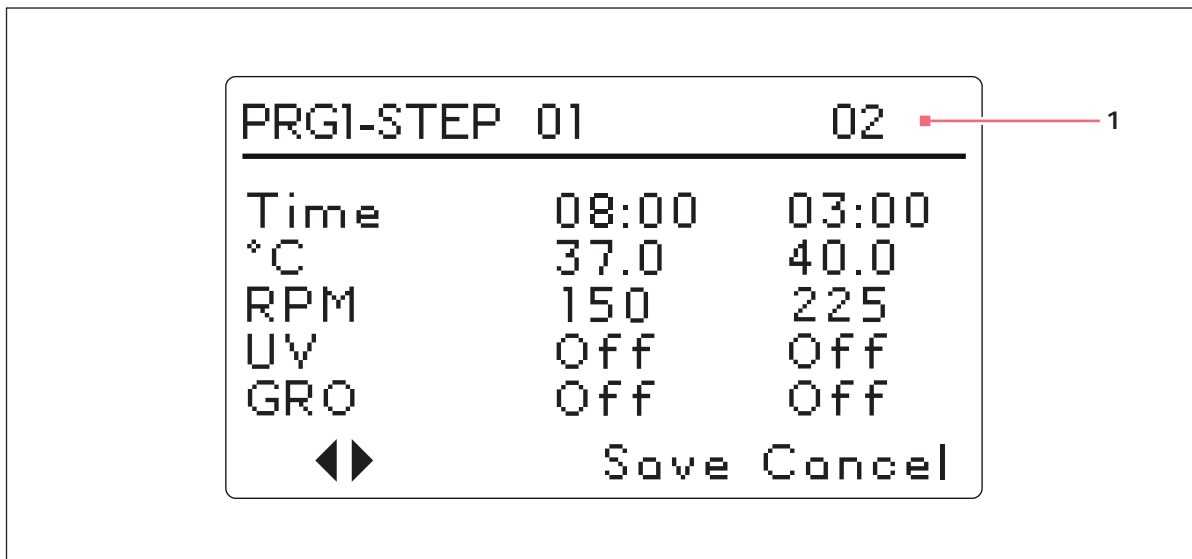

Fig. 5-13: Program 1, Step 2
6. To set the temperature desired (°C from 4.0 to 80.0) for the time period you have set, turn the Control Knob (left to decrease, right to increase). When the desired value appears, click the Control Knob in to save the setting. We will set Step 1 temperature to **37.0 °C** (see Fig. 5-13 on p. 54).
8. Turn the Control Knob to select the desired shaking speed (25 to 400 RPM) for this time period, then click the Control Knob in to save the setting. We will set Step 1 speed to 150 RPM (see Fig. 5-13 on p. 54).
9. To program Step 2 (see Fig. 5-13 on p. 54): use the Control Knob to highlight the arrows at the bottom left of the screen. Click the Control Knob to make the arrows flash, then turn the Control Knob to the right until Step 2 appears. Click the Control Knob in to work in this screen, and repeat Steps 3-10.